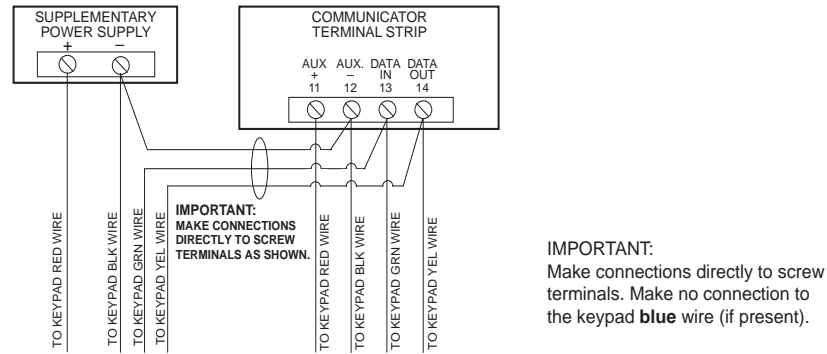

Figure 5-2. Using a Supplementary Power Supply for Keypads
Connect the additional keypads as shown in *Figure 5-2*, using the keypad wire colors shown. Be sure to observe the current ratings for the power supply used.
- Make connections directly to the screw terminals as shown in *Figure 5-2*. Make no connection to the keypad blue wire (if one is present).